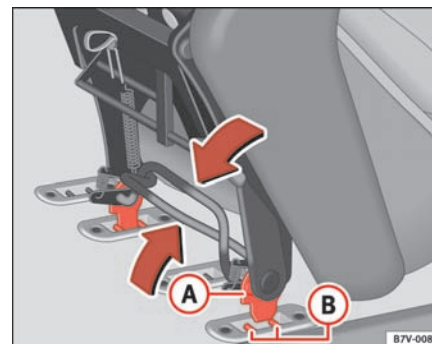

Fig. 94 Installing the seat: bar and retaining bolts
- Place the seat frame ⇒ page 129, fig. 94 **(A)** between the retaining bolts **(B)** in the floor anchorings and release both bars.